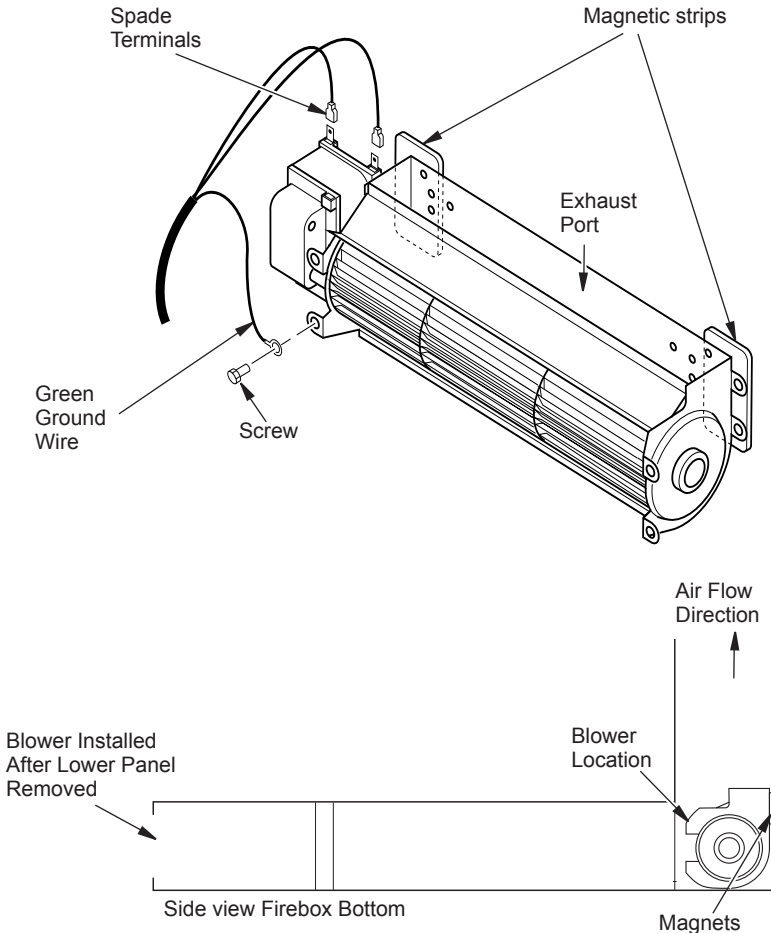

Figure 5: Blower Model BK
1. Attach the power cord to the blower motor by firmly pushing the two female terminals at the end of the power cord onto the two spade terminals on the blower motor (see Figure 5).
2. Attach green ground wire from power cord to blower housing using screw provided (see Figure 5) Tighten screws securely with a Phillips screwdriver.
3. Place the blower against the lower rear wall of the firebox outer wrapper with the exhaust port directed upward. Depending on your model, you may have to carefully route the blower assembly past the controls and brackets, and position the blower inside the back opening. The blower will be held in position against the back wall by the magnets incorporated onto the blower housing (see Figure 5).